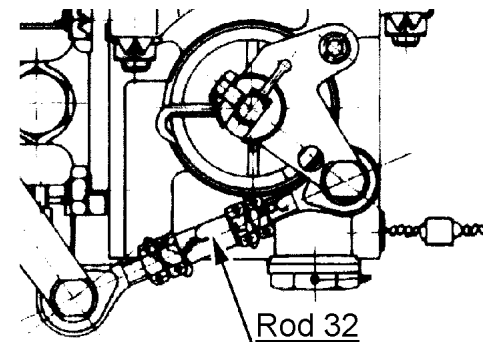

Figure 11-24 Rod 32 – adjustment and securing
- g) After adjustment and clearance measurement, tighten both nuts of the rod 32 (figure 11-24 - left and right thread) and secure with recommended lock wire.